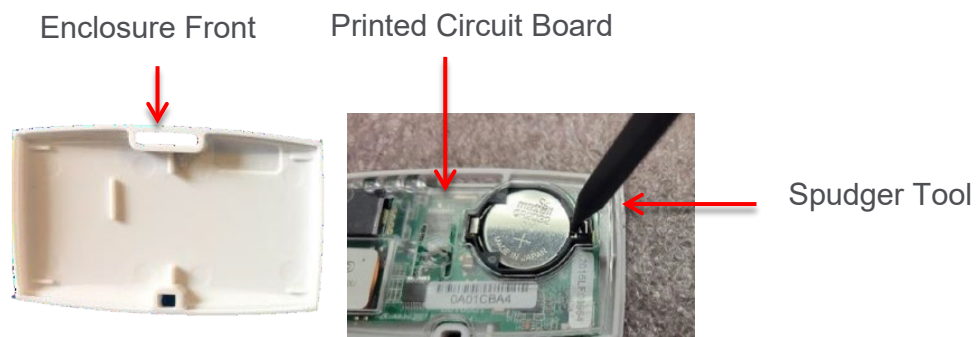

Figure 10. Badge Battery Replacement
2. Lay the Badge face up on a solid working surface and remove the front half of the Badge enclosure. This will expose the Badge printed circuit board (see Figure 10).
3. Use Spudger Tool (Part Number 50002274) to carefully push the battery up and towards positive side of battery holder until it can be grasped and removed from the battery holder (see Figure 10).